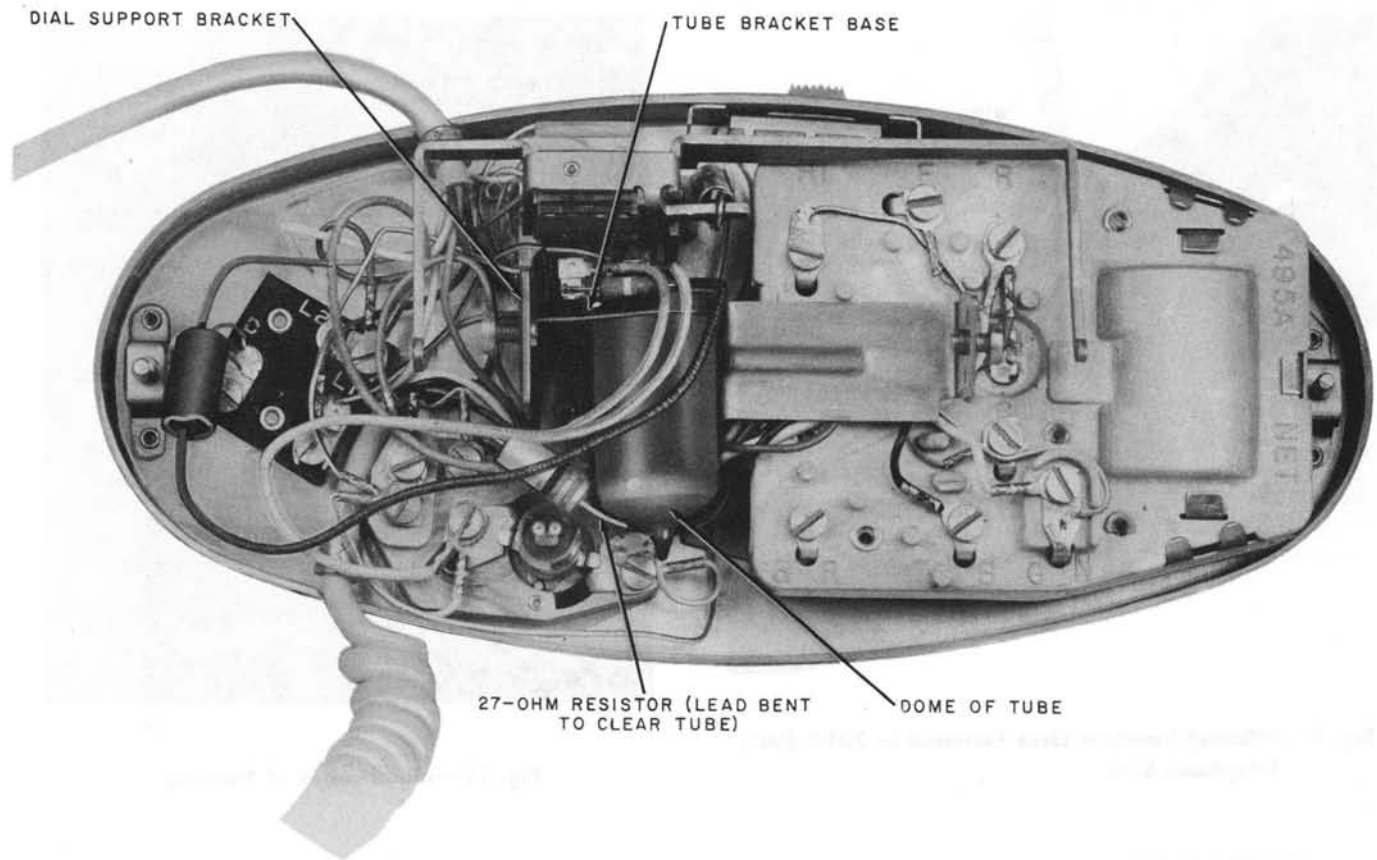

Fig. 8—Cold-Cathode Tube Installation in Typical 700-Type Telephone Set
3.07 If the 711- or 713-type telephone sets are to be used with 4-party full selective or 8-party semiselective ringing, it is necessary to mount the 425A or 426A tube in a 74-type connector block or in the telephone set (Fig. 8). For additional information on the 425A or 426A tube, refer to Section 500-114-100.